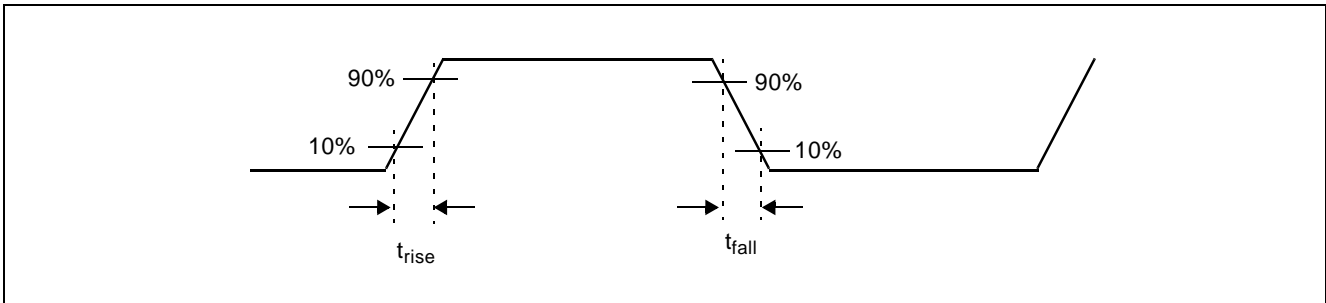

**Figure 30 - Output Duty Cycle**
**AC Electrical Characteristics - Output Clock Duty Cycle1 (See Figure 30).**